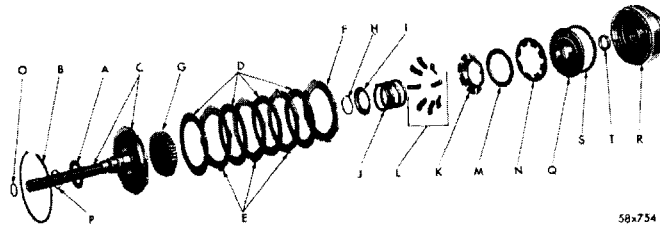

Fig. 73—Front Clutch (Disassembled View)
The letters referred to in disassembly, inspection and reassembly of this unit, pertain to Figure 73.
(2) Do not remove the reaction shaft for inspection. Inspect splines for nicks, burrs and uneven excessive wear. Inspect inner bore. Input shaft seal ring contact area should not be worn. Thrust washer contact area on end of shaft should be smooth and unmarked.
(3) Inspect driving discs (D) for flaking, glazing, burning and excessive wear (grooves not evident). Spline teeth should slide freely on driving disc hub splines (G).
(4) Steel clutch plates (E) and pressure plate (F) should be smooth and lugs should slide freely in piston retainer (R).
(5) Inspect snap ring (H), spring retainer (I), and return spring (J) and lever retainer (K) for distortion, breakage and cracks.
(6) Inspect levers (L), cushion spring (N) and cushion spring washer (M) for wear, distortion or evidence of scoring.
(7) Inspect piston (Q) and piston retainer (R). Remove any nicks, burrs or light score marks with crocus cloth. Check ball in retainer must operate freely. Inspect piston seal rings (S and T) for deterioration, nicks, distortion, or excessive wear.
86. INPUT SHAFT AND FRONT CLUTCH (UNIT NO. 3) - ASSEMBLY (FIG. 73)